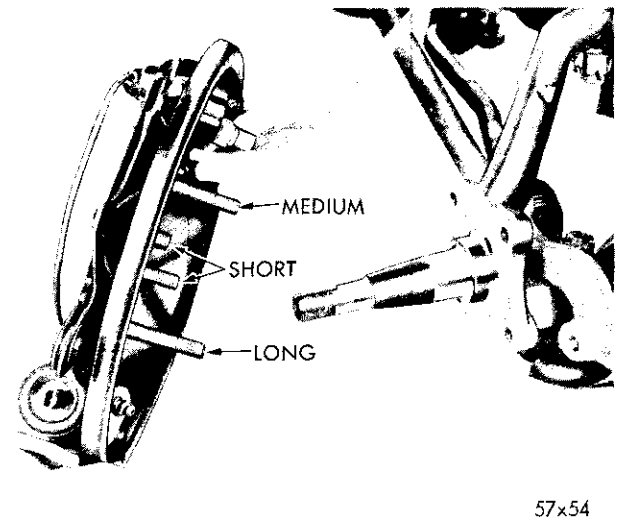

Fig. 13—Removing Brake Support Plate and Brake Assembly (Front)
(1) Remove the wheel, tire, and brake drum assembly.
(2) Remove the four retaining nuts attaching the support plates and dust shield to the steering knuckle.
(3) Disconnect the flexible brake hose from the frame bracket.
(4) Remove the four bolts that attach the brake assembly to the steering knuckle. (Refer to Figure 13 and note the location of bolts and the size. Three different lengths are used.)